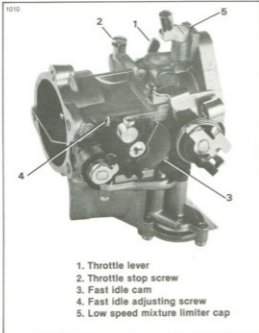

Figure 4-1. Carburetor — 1978 1/2 - 1979
Remove the air cleaner. With the engine at normal operating temperature and the choke knob all the way in (choke fully open), adjust the throttle stop screw (Figure 4-1, 4-2, 4-3 or 4-4) so the engine idles at 900-950 rpm.
screw at the fast idle cam (3), figure 4-1, 4-2, 4-3 or 4-4. Slowly rotate the cam, from the choke plate fully open position, to the first noticeable click or detent. Turn the fast idle adjusting screw (Figure 4-1, 4-2, 4-3, 4-4) in or out to set the fast idle at 1500 rpm.